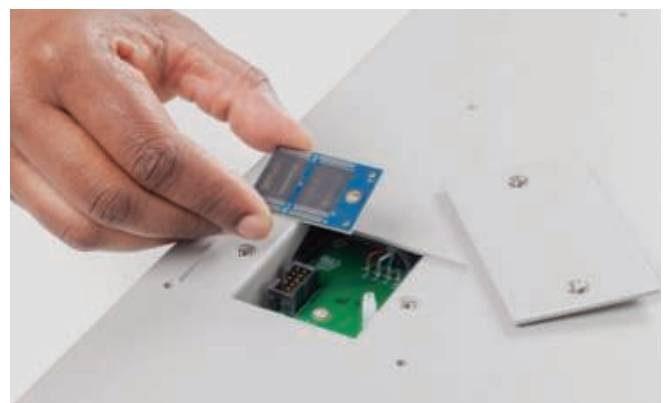
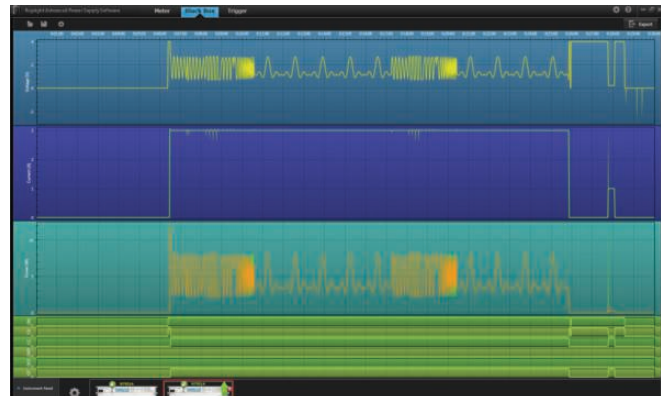

Figure 8. Installing the N7908A BBR hardware option on an APS power supply
Figure 9. Black box recorder data displayed within the N7906A Power Assistant software
Much like a flight data recorder, the N7908A black box recorder (BBR) runs continually in the background, independent of what the power supply is doing. When the power supply is on, the BBR is recording power events and storing measurements in non-volatile memory. The BBR can be set for either a 24-hour record or a 10-day record period. In the 24-hour mode, measurements are made at a rate of 100 per second, and in the 10-day mode they are made at a rate of 10 per second. The BBR data can be accessed via the free APS power assistant software (see Figure 9 on page 9). The BBR is a user-installable hardware option, and it works in all APS N6900 and N7900 power supplies. You can purchase the N7908A BBR with an APS power supply or buy it later and install it in your existing APS power supply. The BBR hardware board plugs into the bottom of an APS power supply, as shown in Figure 8.
- Retrieve and view data from the optional APS power supply black box recorder (see Figure 9)